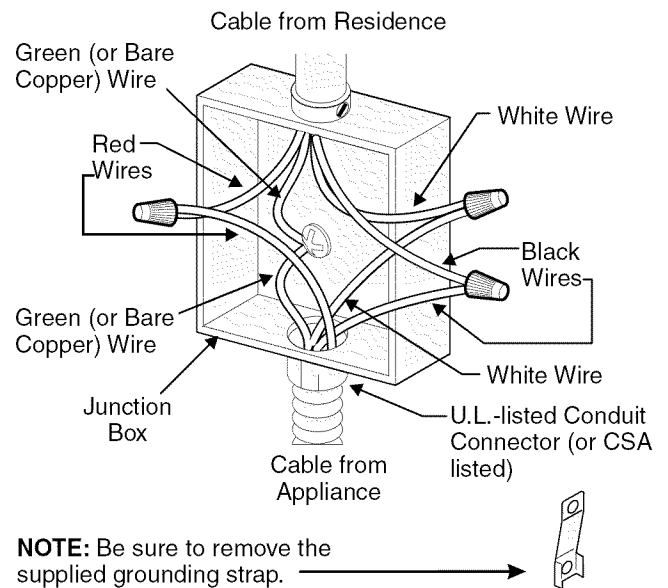

Figure 11 – 4-Wire Electrical System
Where local codes **DO NOT** permit connecting the appliance-grounding conductor to the neutral (white) wire, or if connecting to 4-wire electrical system (see Figure 11):
3. In the circuit breaker, fuse box or junction box (Fig. 11):